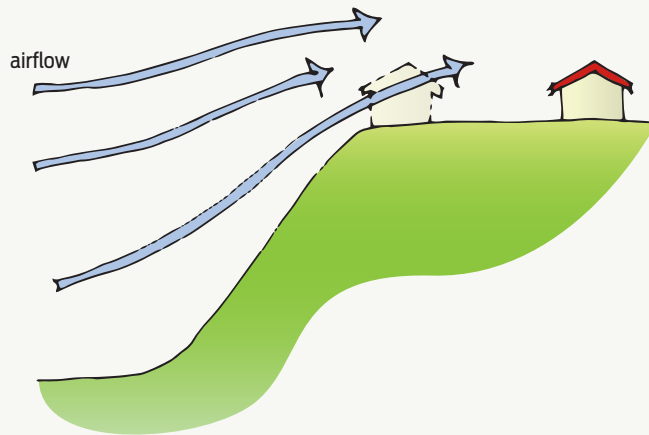

Figure 1 Locate building back from edge of slope.
- locating new or isolated buildings below the ridge line or back from the edge of an escarpment or bank (see Figure 1)
- locating the building as far back as possible from the edge of the slope (see Figure 1)